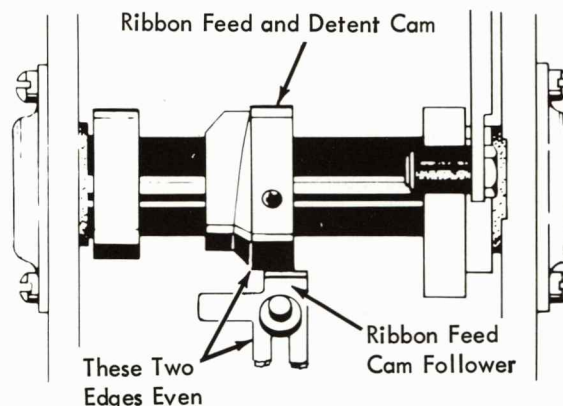

FIGURE 55. Ribbon Feed Cam
- a. Position the ribbon feed and detent cam left or right on the print sleeve so that the inside rib of the cam will be in line with the left hand edge of the ribbon feed cam follower (Fig. 55).